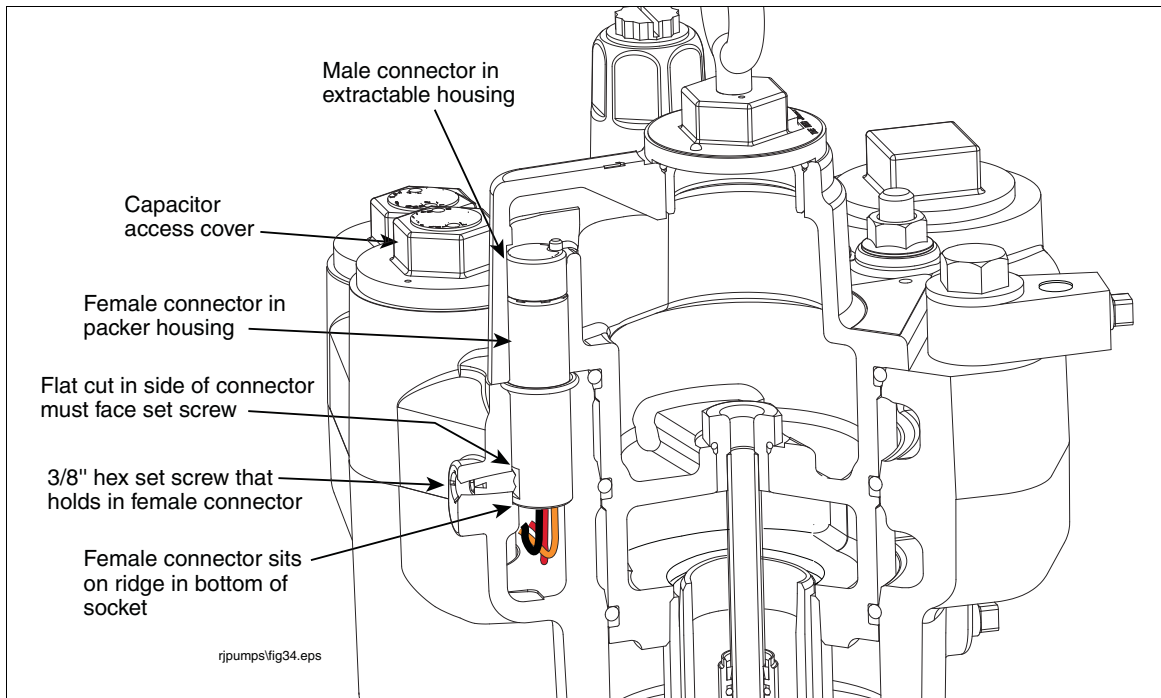

Figure 41. Locating Female Connector Set Screw
18. Using a 3/16" hex wrench, turn the set screw that holds the female connector in place about 1-1/2 turns counterclockwise until you can lift out the connector (see Figure 41). **Note: Do not try to remove the set screw.**